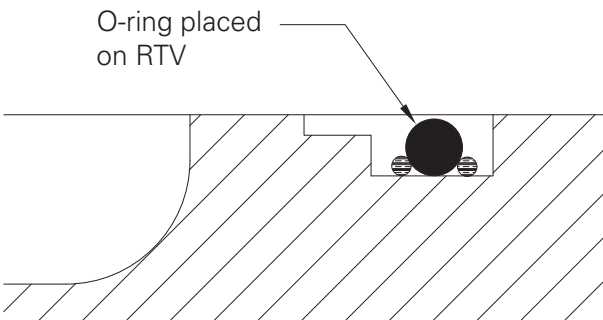
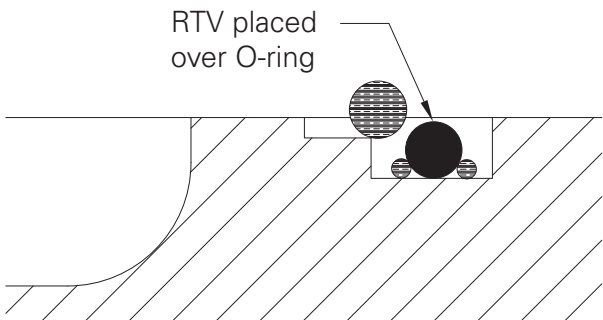

Figure 12
Figure 13
4.5.6.4 Install the O-rings (I.D. and O.D.) on top of the sealant, working them into position so that they lay flat in the bottom of the groove. See Figure 12. A second bead of sealant .060"-.090" (1,5 mm - 2,3 mm) in size should then be applied in the shallow groove. See Figure 13.